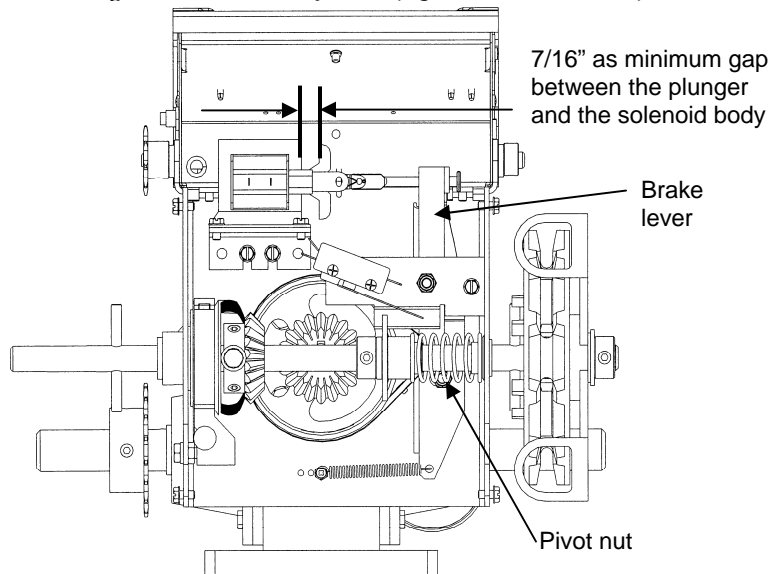

Figure 15 Brake system (front view)
2. Slightly unscrew the pivot nut using the appropriate key ($7/16''$) or a nut driver (Figure 15).
4. The gap between the plunger and the solenoid body should measure $1/4''$ to $3/8''$ wide (Figure 15).